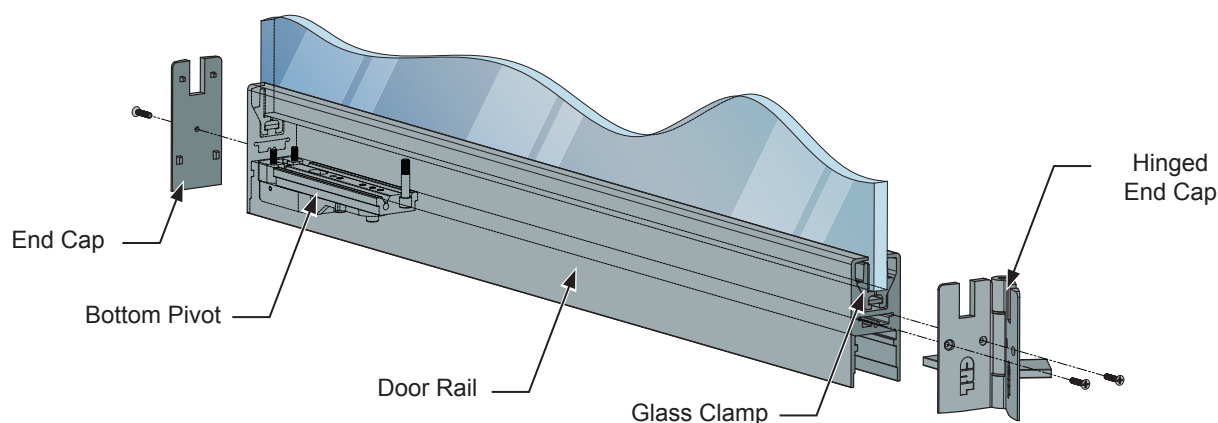

Fig. 9
1. Remove both End Caps from the rail. **(Fig. 9)**